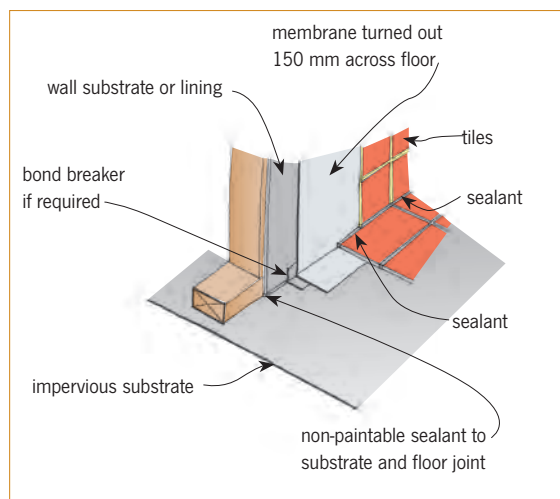

Figure 6: Wall to floor junction where floor impervious (e.g. steel-trowelled concrete).
8.0.3 Where tiles are laid over an impervious floor substrate such as concrete, the detail must ensure the continuity of the waterproofing membrane at the junction between the wall and the floor. Figure 6 gives one option.